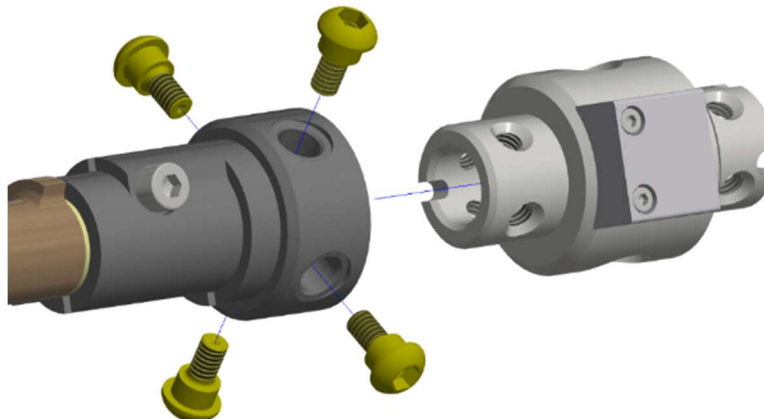

Figure 11-21. Remove the four Modified BHSS M6 Thread (W50-61042) from the Lower Arm and Wrist Assembly (474-6700-1,2)
11.2.17 Remove the four Modified BHSS M6 Thread (W50-61042) from the Lower Arm and Wrist Assembly (474-6700-1,2) (Figure 11-21).